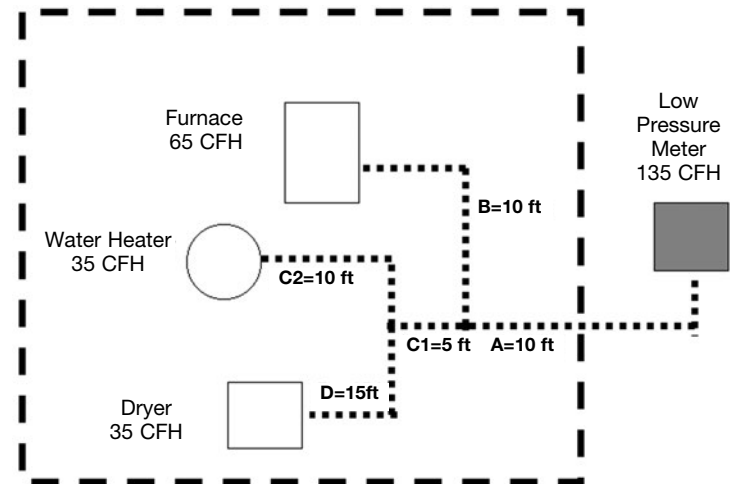

Figure: 3-8
1. The system presented in Figure: 3-8 is similar to that in 3-1, a single-family installation with the addition of one more appliance, a dryer. The supply pressure is 6 inches water column and the allowable pressure drop is 0.5 inch.